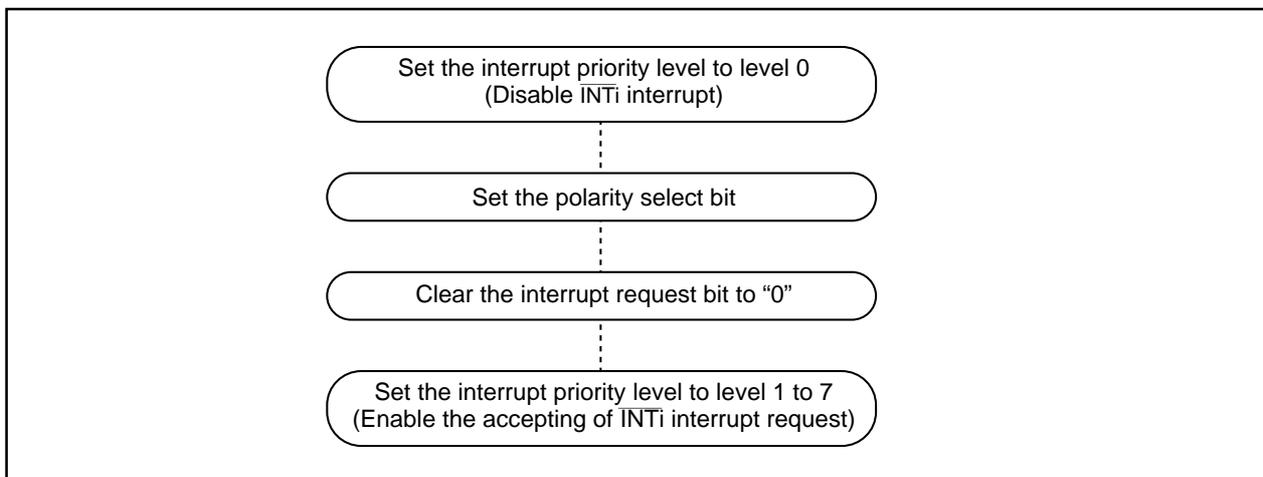

Figure 1.31.2. Switching condition of  $\overline{\text{INT}}$  interrupt request
- When the polarity of the  $\overline{\text{INT}}_0$  to  $\overline{\text{INT}}_5$  pins is changed, the interrupt request bit is sometimes set to "1". After changing the polarity, set the interrupt request bit to "0". Figure 1.31.2 shows the procedure for changing the  $\overline{\text{INT}}$  interrupt generate factor.